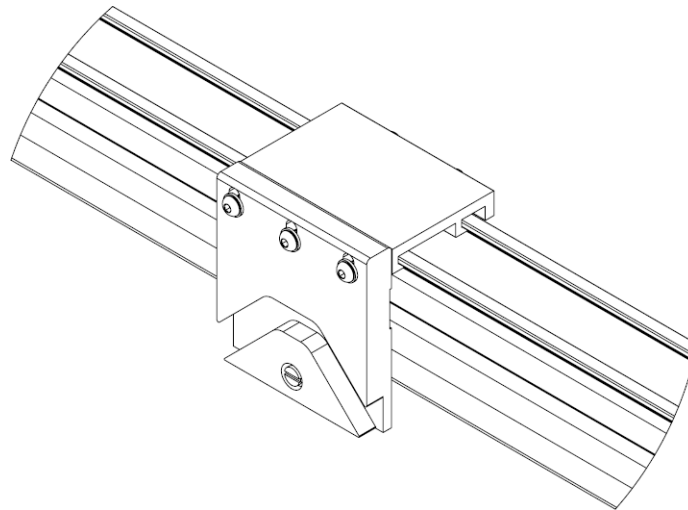

Figure 87: **Parallel Track TGB Affixed to Gate Side Parallel Track**
b. Affix the parallel track TGB to the gate side parallel track as shown in Figure 87.